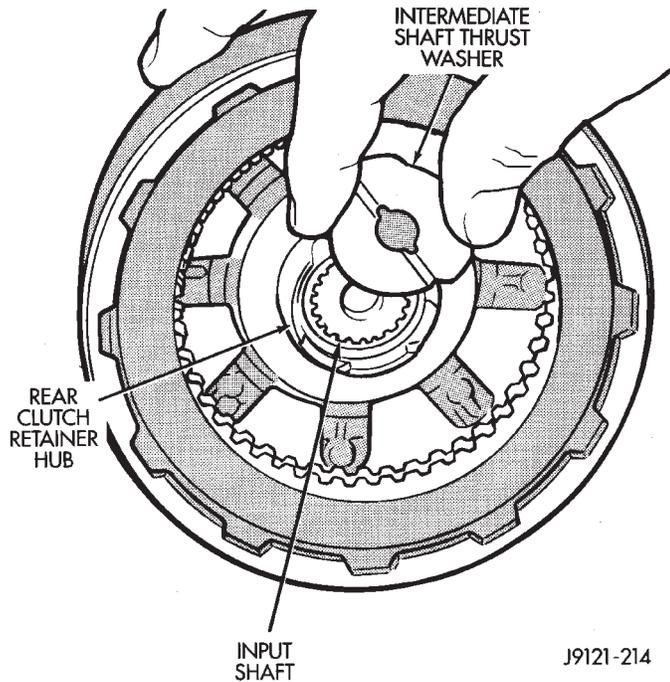

Fig. 123 Removing Intermediate Shaft Thrust Washer
(24) Remove intermediate shaft thrust washer from front end of shaft or from rear clutch hub (Fig. 123).